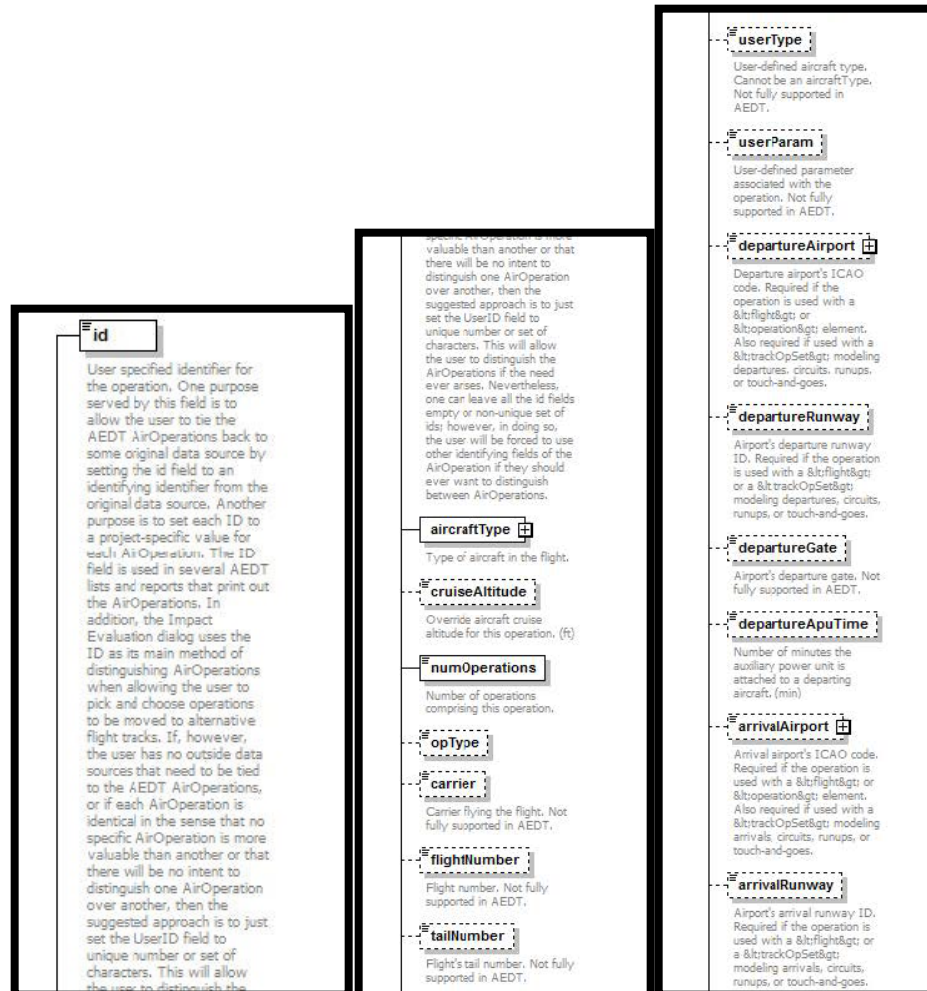
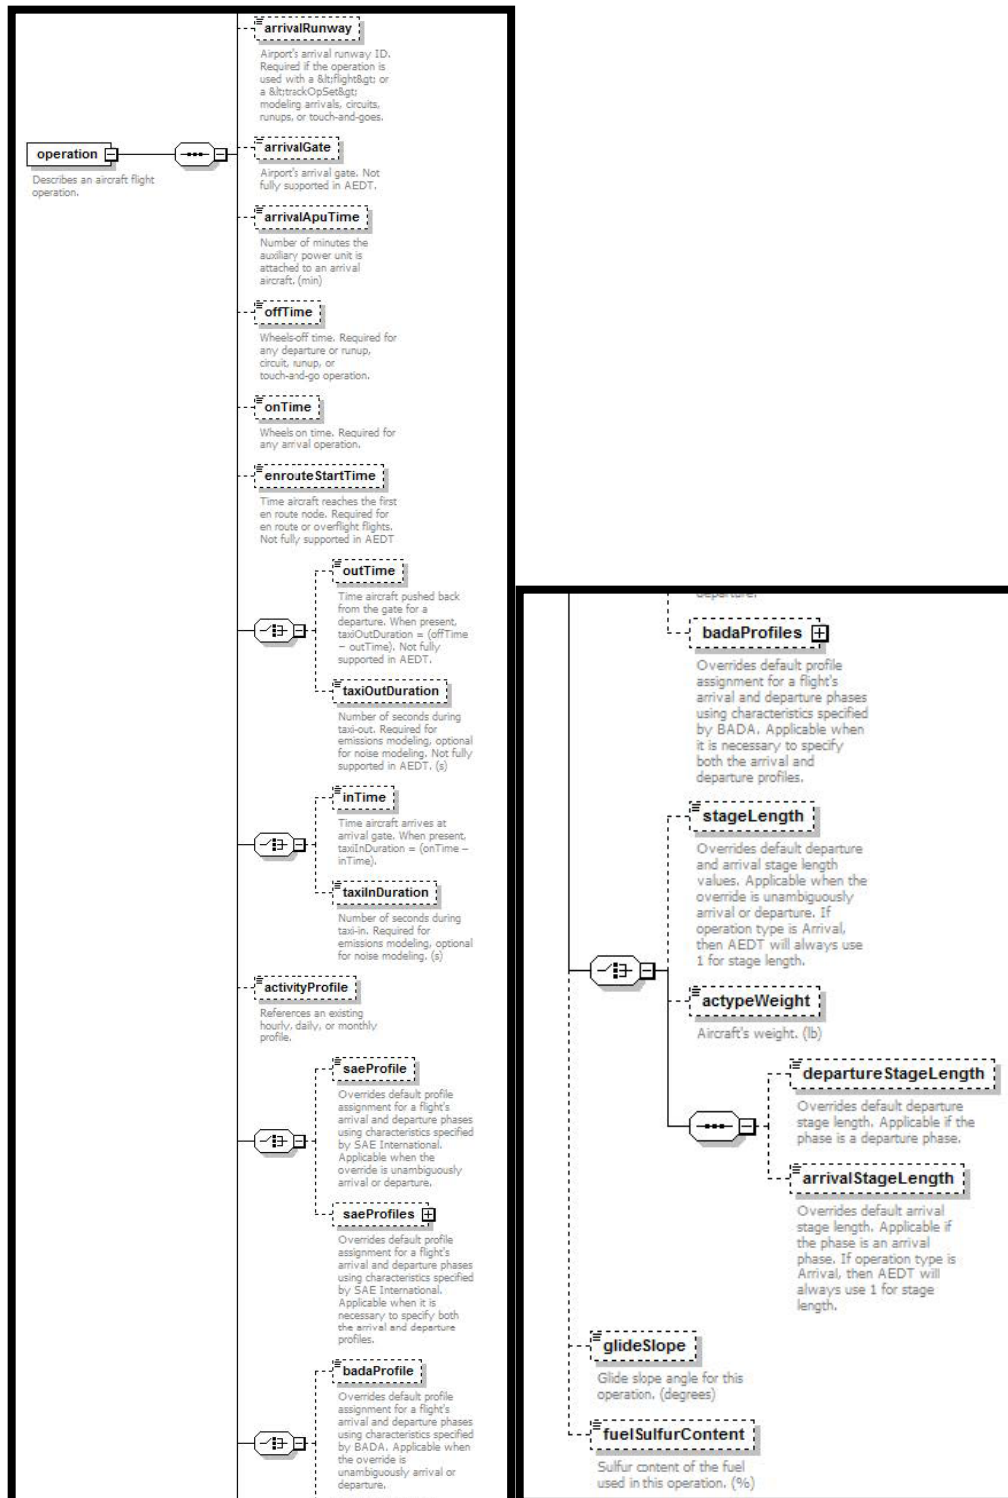

Figure 57. element operation. 1 -> 2 -> 3
Figure 58. element operation. 4 -> 5
13. **AsifXml/study/scenario/case /operation** (Figure 57 and Figure 58):